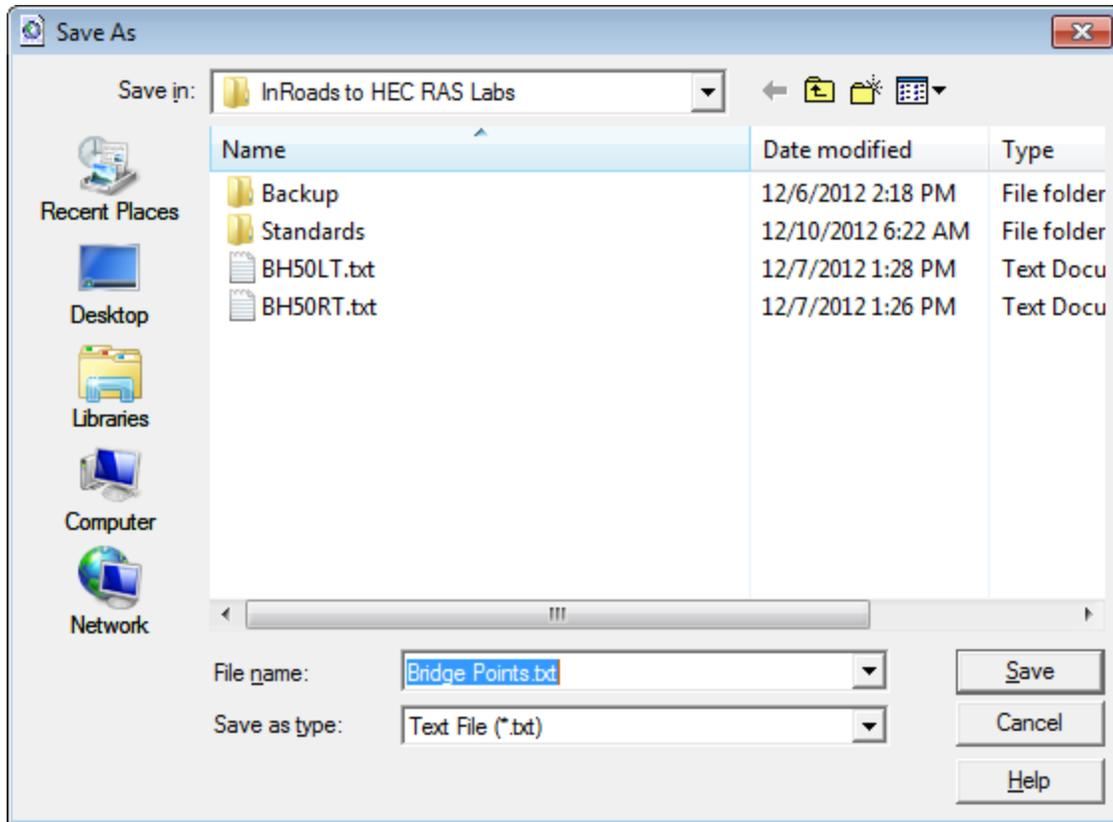

Figure L5-13 Save As
- Verify your entries match those shown in *Figure L5-13*.